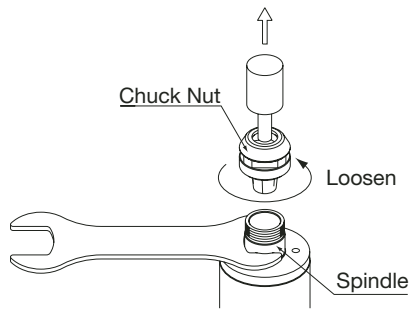

Fig. 25
- (1) Remove the cutting tool according to the “12 CHANGING CUTTING TOOLS” procedure above and remove chuck nut assembly. (Fig. 25)
- (2) The collet and chuck nut are held together by a groove in the collet and a flange in the chuck nut. To remove the collet hold the chuck nut in one hand and push diagonally down on the collet. The collet should pop out. (Fig. 25)